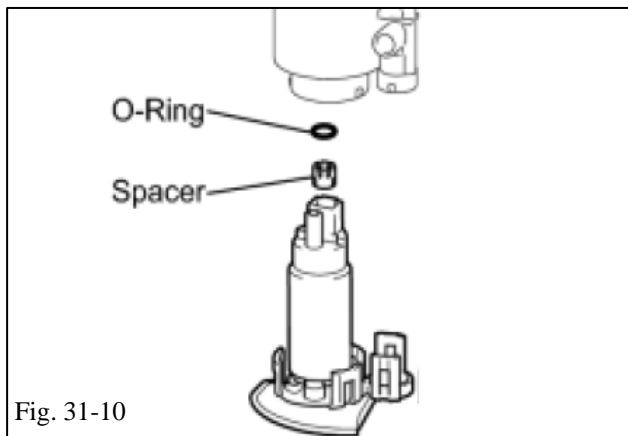

Fig. 31-10
- (j) Remove the fuel pump discharge O-ring and spacer from the fuel pump (Fig. 31-10).